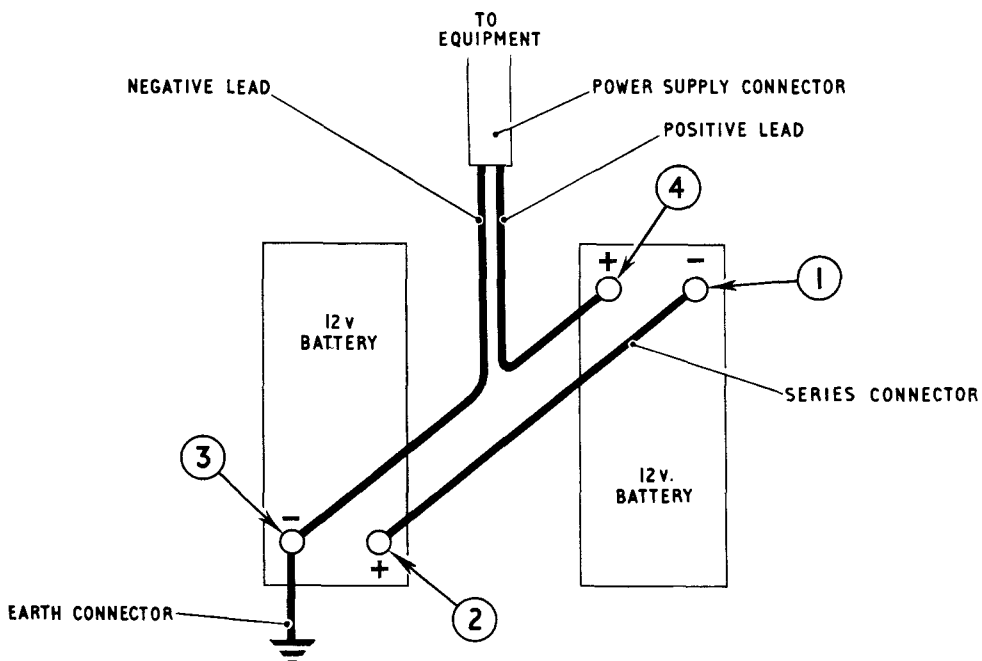

FIG. 65 METHOD OF FITTING CONNECTORS TO TWO BATTERIES
- (a) First fit the series connector between the negative terminal on one battery (1 in fig. 65) and the positive terminal on the other (2 in fig. 65). The terminals to which the series connector is fitted must not now be used for any other connections.
- (b) Fit the free end of the 3-ft. earth connector to the vacant negative terminal (3 in fig. 65).
- (c) Then fit the negative lead of the power supply connector to the same battery terminal as the earth connector (3 in fig. 65).
- (d) Finally fit the positive lead of the power supply connector to the vacant positive terminal (4 in fig. 65).